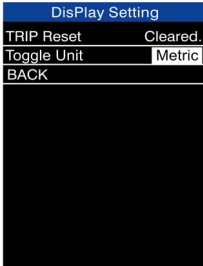

Figure 4
4. Press the [i] button to confirm and select "Metric" (Figure 4).